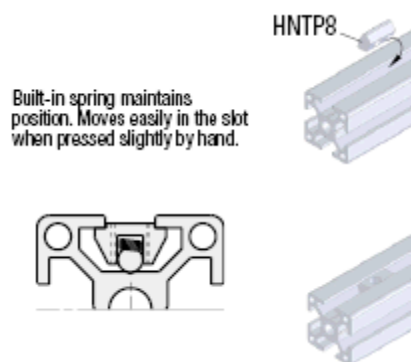

Figure 2-2 Installing the insertion nuts into the aluminum extrusion channel
3. Next, prepare to install all components to the Pedestal Mount using the supplied fastener components. The insertion nuts install into the Pedestal Aluminum Extrusion channel and contain a spring-loaded ball feature to hold them in place during assembly. To install the insertion nuts into the Aluminum Extrusion channel, insert the insertion nuts into the extrusion channel at an angle as shown in Figure 2-2, below: